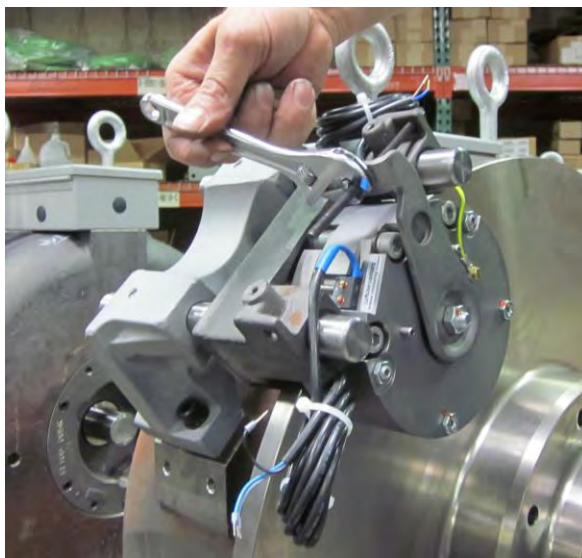

Figure 8
- After everything has been re-installed in the electrical enclosure, and the electrical enclosure closed, remove bolt holding brake in “open” position. After that it is now time to re-apply electricity to the system. See Figure 8 for bolt removal.